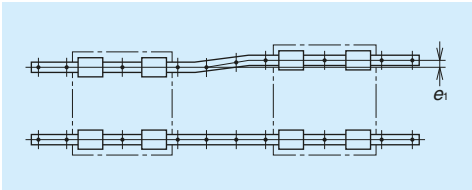

Fig. 10.5
- **Figs. 10.5 and 10.6** represent the mounting errors of e_1 and e_2 . Their permissible values are shown in description "5. Installation" of each model.